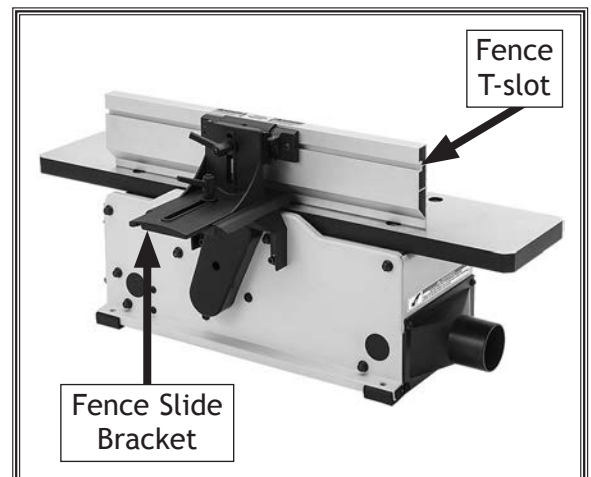

Figure 11. T-slot on rear side of fence.
3. Install fence on fence slide bracket by inserting (2) 7mm T-slot nuts installed in **Step 2** into T-slot on rear side of fence (see **Figure 11**).